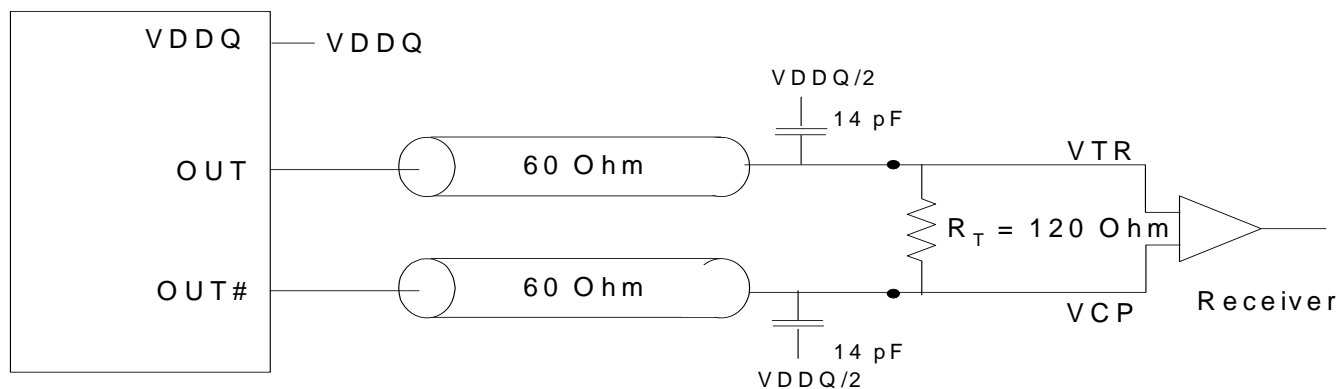

Figure 6. Differential Signal Using Direct Termination Resistor
- Differential input signal voltage specifies the differential voltage $V_{TR} - V_{CP}$ required for switching, where V_{TR} is the true input level and V_{CP} is the complementary input level. See Figure 6.
- For load conditions see Figure 6.
- The value of V_{OC} is expected to be $(V_{TR} + V_{CP})/2$. In case of each clock directly terminated by a 120Ω resistor. See Figure 6.
- All outputs switching load with 14 pF in 60Ω environment. See Figure 6.